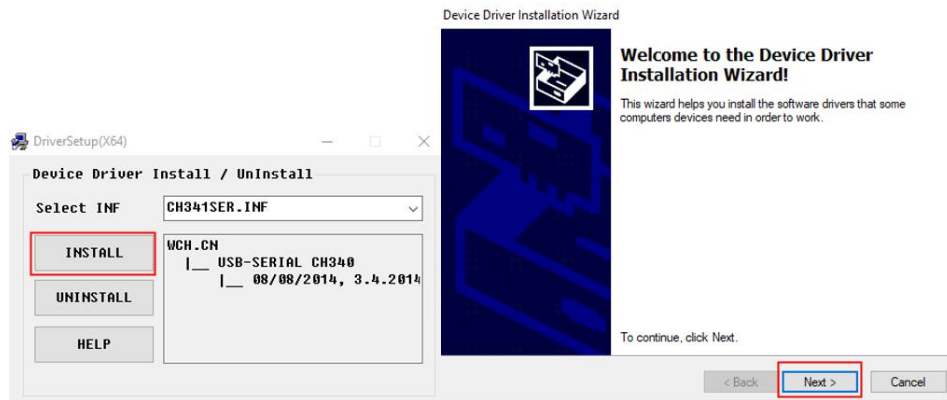

Figure 2.6 The Device Driver Installation Wizard dialog box
- During the installation, the Driver Installation dialog box is displayed, , two drivers needs to be installed, as shown in Figure 2.6.